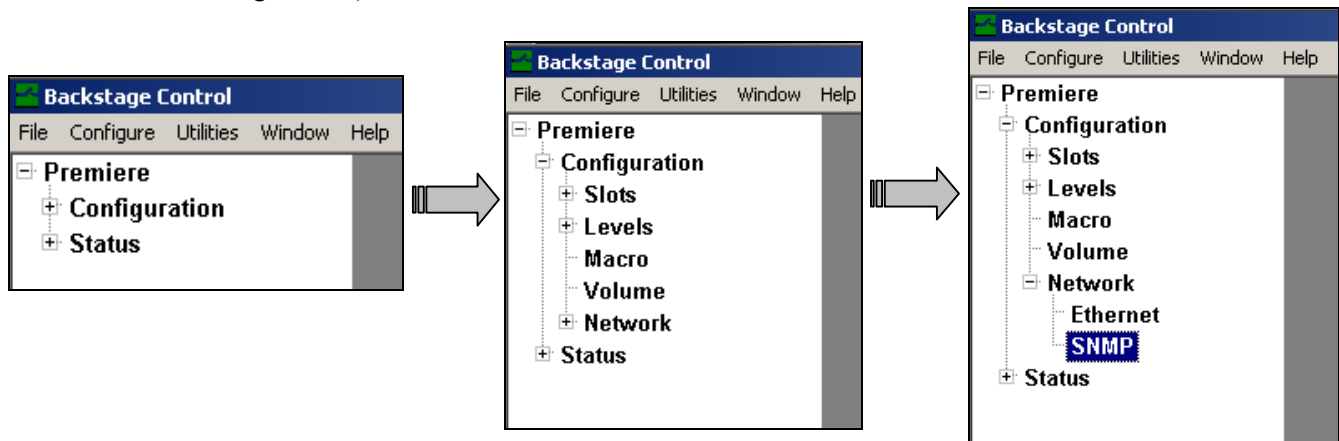

FIGURE 119: Accessing The SNMP Directory
- 1) In the tree window, access the SNMP directory by expanding the Premiere, Configuration, and Network root directories by clicking on the x-box (☒) adjacent to each directory (see Figure 119).